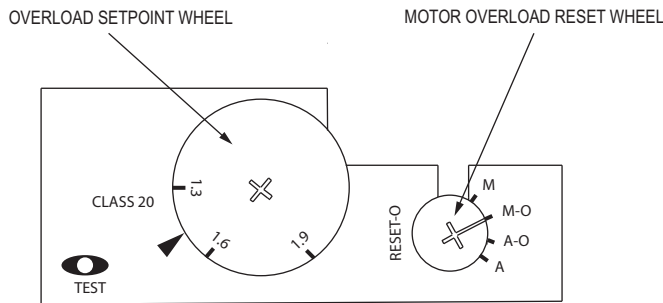

Fig. 24 — Motor Starter Setting
1. On the starter, adjust the Motor Overload to match the **FLA Rating** of the installed motor by turning the Overload Set-point wheel to the appropriate value. See Fig. 24. Evaporator and condenser motor FLA Ratings are listed in Table 21.